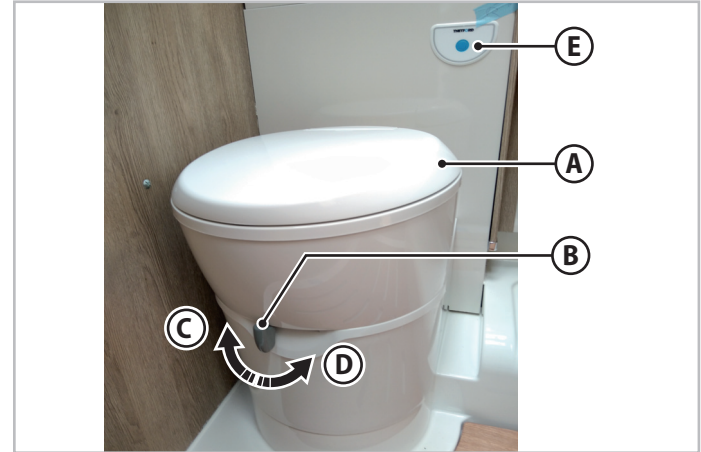

Fig.6.37 - Flushing the toilet
The upper part of the toilet (A - Fig.6.37) can be rotated right or left for optimal use of the space.
1. Move the lever (B - Fig.6.37) to position (C - Fig.6.37) to open the flush hatch.
2. Press and hold the flush button (E - Fig.6.37) for as long as needed.
3. Move the lever to position (D - Fig.6.37) to close the flush hatch.
1. Check that the toilet drain hatch is closed: the lever (**B** - Fig.6.37) must be in position (**D** - Fig.6.37).